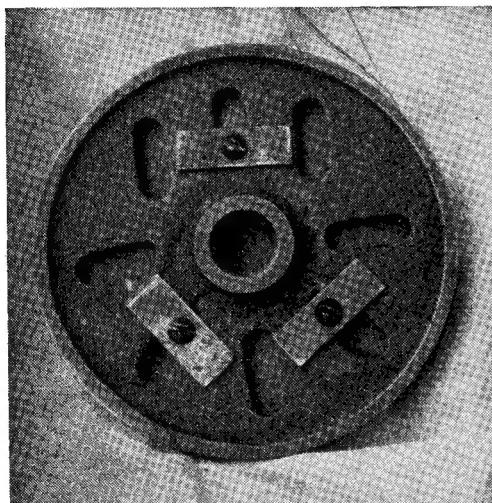

Fig. 4. How to clamp a wood disc on to an iron faceplate at the back
draw (DH), also touching the circle, and complete the square (AGHD) on the circle. From any corner (say A) set off a distance (A-1) equal to $\frac{2}{7}$ ths of the circle diameter or side of the square—this, if (AD) be 7 in. (A-1) will be 2 in. By joining 1 to 2, touching the circle, will give a tangent very nearly 45 deg., or near enough. Do the same at (G-4), (H-5) and (D-7). The square is next cut out with a hacksaw or fine-tooth rip saw, tending to cut outwards from the circle rather than inwards, so to avoid undercutting the circle. Before taking off the corners, in the same manner, test the thickness at each with a micrometer. These should tally with one another to within two or three thou. Allowing for the original plank saw cut 1 in. stuff comes out about $\frac{1}{8}$ in. When the corner pieces are sawn off, test the points 1, 2, 3, 4, etc., and measure the highest from the centre to find if, when set central, any will foul the bottom of the gap. If this is so, take enough off each to clear, paring downwards with a sharp firmer chisel. Then set the job on to the lathe iron faceplate as shown in Fig. 4 nearest to third of circle slots will allow. The clamps are cut from $\frac{1}{2}$ -in. \times 3/32-in. mild-steel strip, $1\frac{1}{2}$ in. long, and holed centrally with No. 19 drill (0.166 in.). The screws are No. 8 (0.164 in.) iron round-head, of such length to go into the wood not less than $\frac{3}{8}$ in. To centralise the setting, measure exact diameter of the faceplate and scribe slightly larger circle in pencil using circle centre as a guide. To some extent the setting may be out, but if when iron faceplate (which must run flat and true on its lathe) is put on lathe nose, the large circle on mahogany runs out at all, the clamp screws must be eased and the job tapped over and run till true, before finally tightening screws. When completed so far, the outside edge has to be turned to clean up the big circle. (For this, use a very sharp tool held in the slide-rest and having a sharp top rake.) Don't run too fast or the tool edge will heat and soften. It is not intended to use this setting of the wood as a chuck but only to turn the edge and recess the centre to take the threaded nut, and is therefore the back of the accessory.